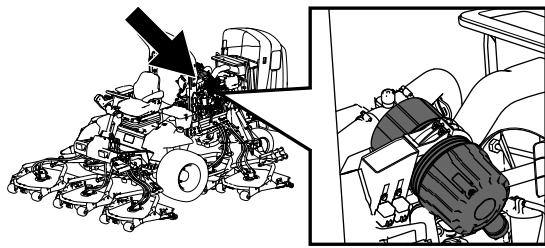

Figure 40
1. Replace the air cleaner (Figure 40).